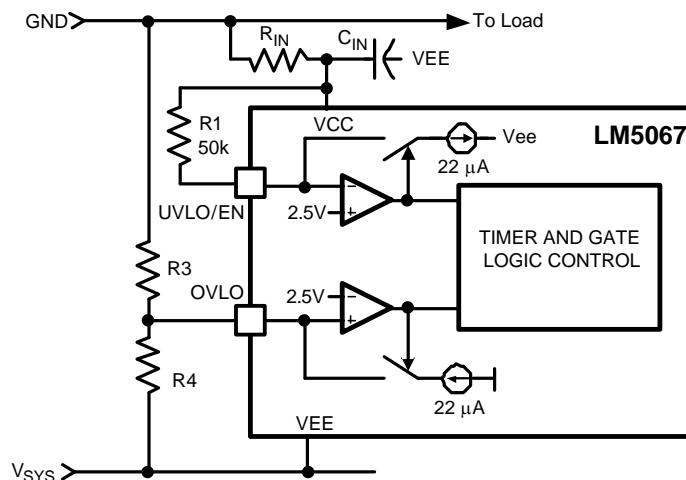

Figure 16. UVLO = POREN
**Option C:** The minimum UVLO level is obtained by connecting the UVLO pin to VCC as shown in Figure 16. Q1 is switched on when the operating voltage reaches the POREN threshold ( $\approx 8.4V$ ). The OVLO thresholds are set by R3 and R4 using the procedure in Option B.